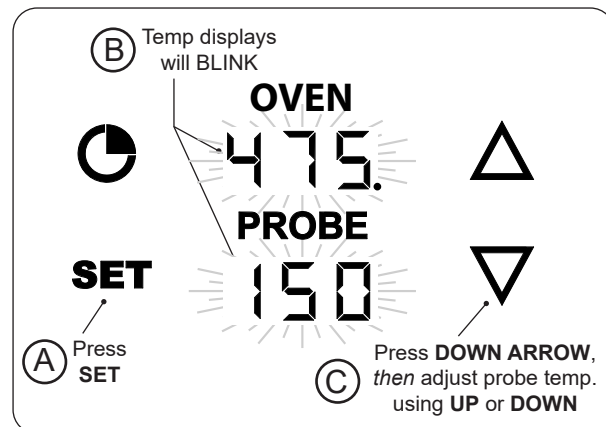

Fig. 35-2 Set probe temperature
1. With the thermometer **on** and the meat probe plugged in, press the **SET** button once. The OVEN and PROBE displays will blink. (While blinking, either area can be selected to enter their settings.) See Fig. 35-2, A and B.
2. Press the **DOWN ARROW** to select the probe settings, then you may use the up or down arrows to set the desired temp (Fig. 35-2, C).